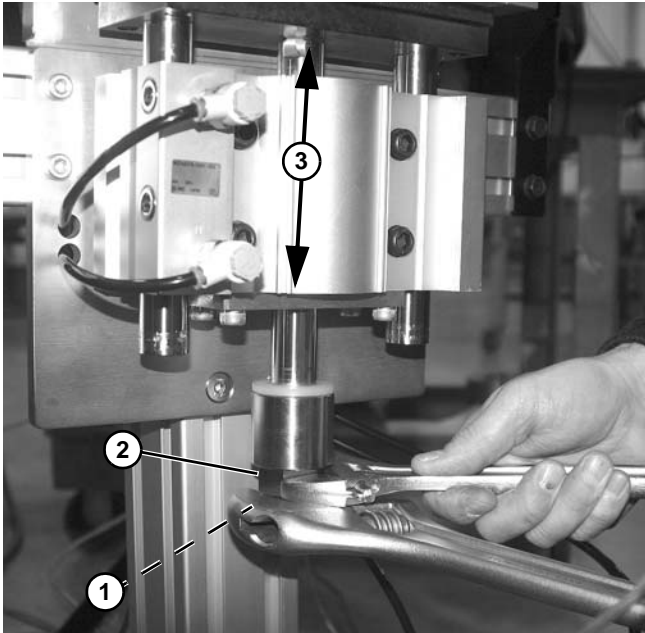

Figure 61
- To adjust stroke, loosen jam nut (**Figure 61, item 1**) from large nut (**Figure 61, item 2**) on the bottom of cylinder shaft.
- Turn large nut (**Figure 61, item 2**) clockwise or counterclockwise to raise or lower (**Figure 61, item 3**) pallet assembly as needed.